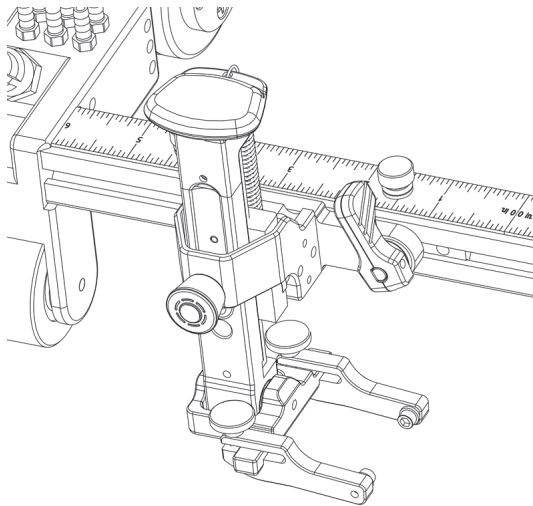

Figure 2-12 Probe holder inserted into the rail slot
3. Firmly press the probe holder into the rail slot, making sure that the cam pin stays aligned horizontally (Figure 2-12 on page 44).